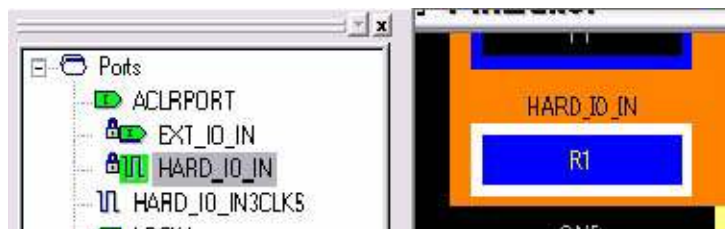

Figure 4-32 • Port Assignment for a CCC with Hardwired I/O Clock Input
- Find the associated clock input port under the Ports tab, and place the input port at one of the Gmn* locations using PinEditor or I/O Attribute Editor, as shown in Figure 4-32.